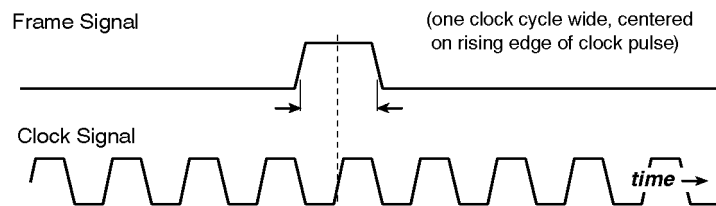

Figure 10: Clock and frame signal timing in two wire mode
- Two Wire Mode.** In two wire mode, the TSG 1001 accepts information from both the Clock and Frame inputs. The clock signal is used as the system clock, and the TSG resets to the top of the video frame whenever a positive pulse is received at the Frame input. The frame signal must also be 10KH differential ECL. The range of permissible frequencies for the external clock in this mode is 13.5 to 78 MHz. The correct timing relationship for the clock and frame signals is shown in Figure 10.